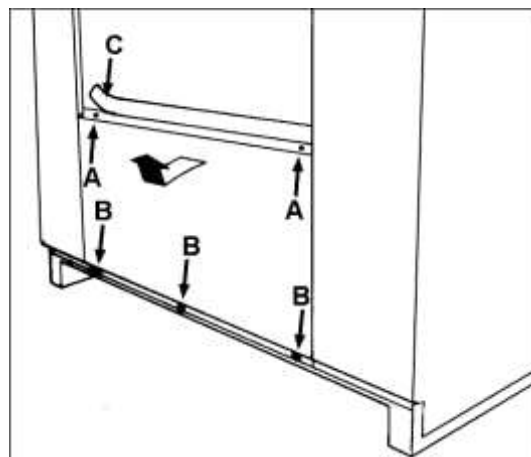

Fig. 2.7
- Remove the screws (Fig.2.7/A) holding the lower front cover and loosen the three screws (Fig. 2.7/B) holding the base of the chassis.
- Separate the rubber profile (Fig. 2.7/C) at the two small side guards and remove the front cover (Fig. 2.7).